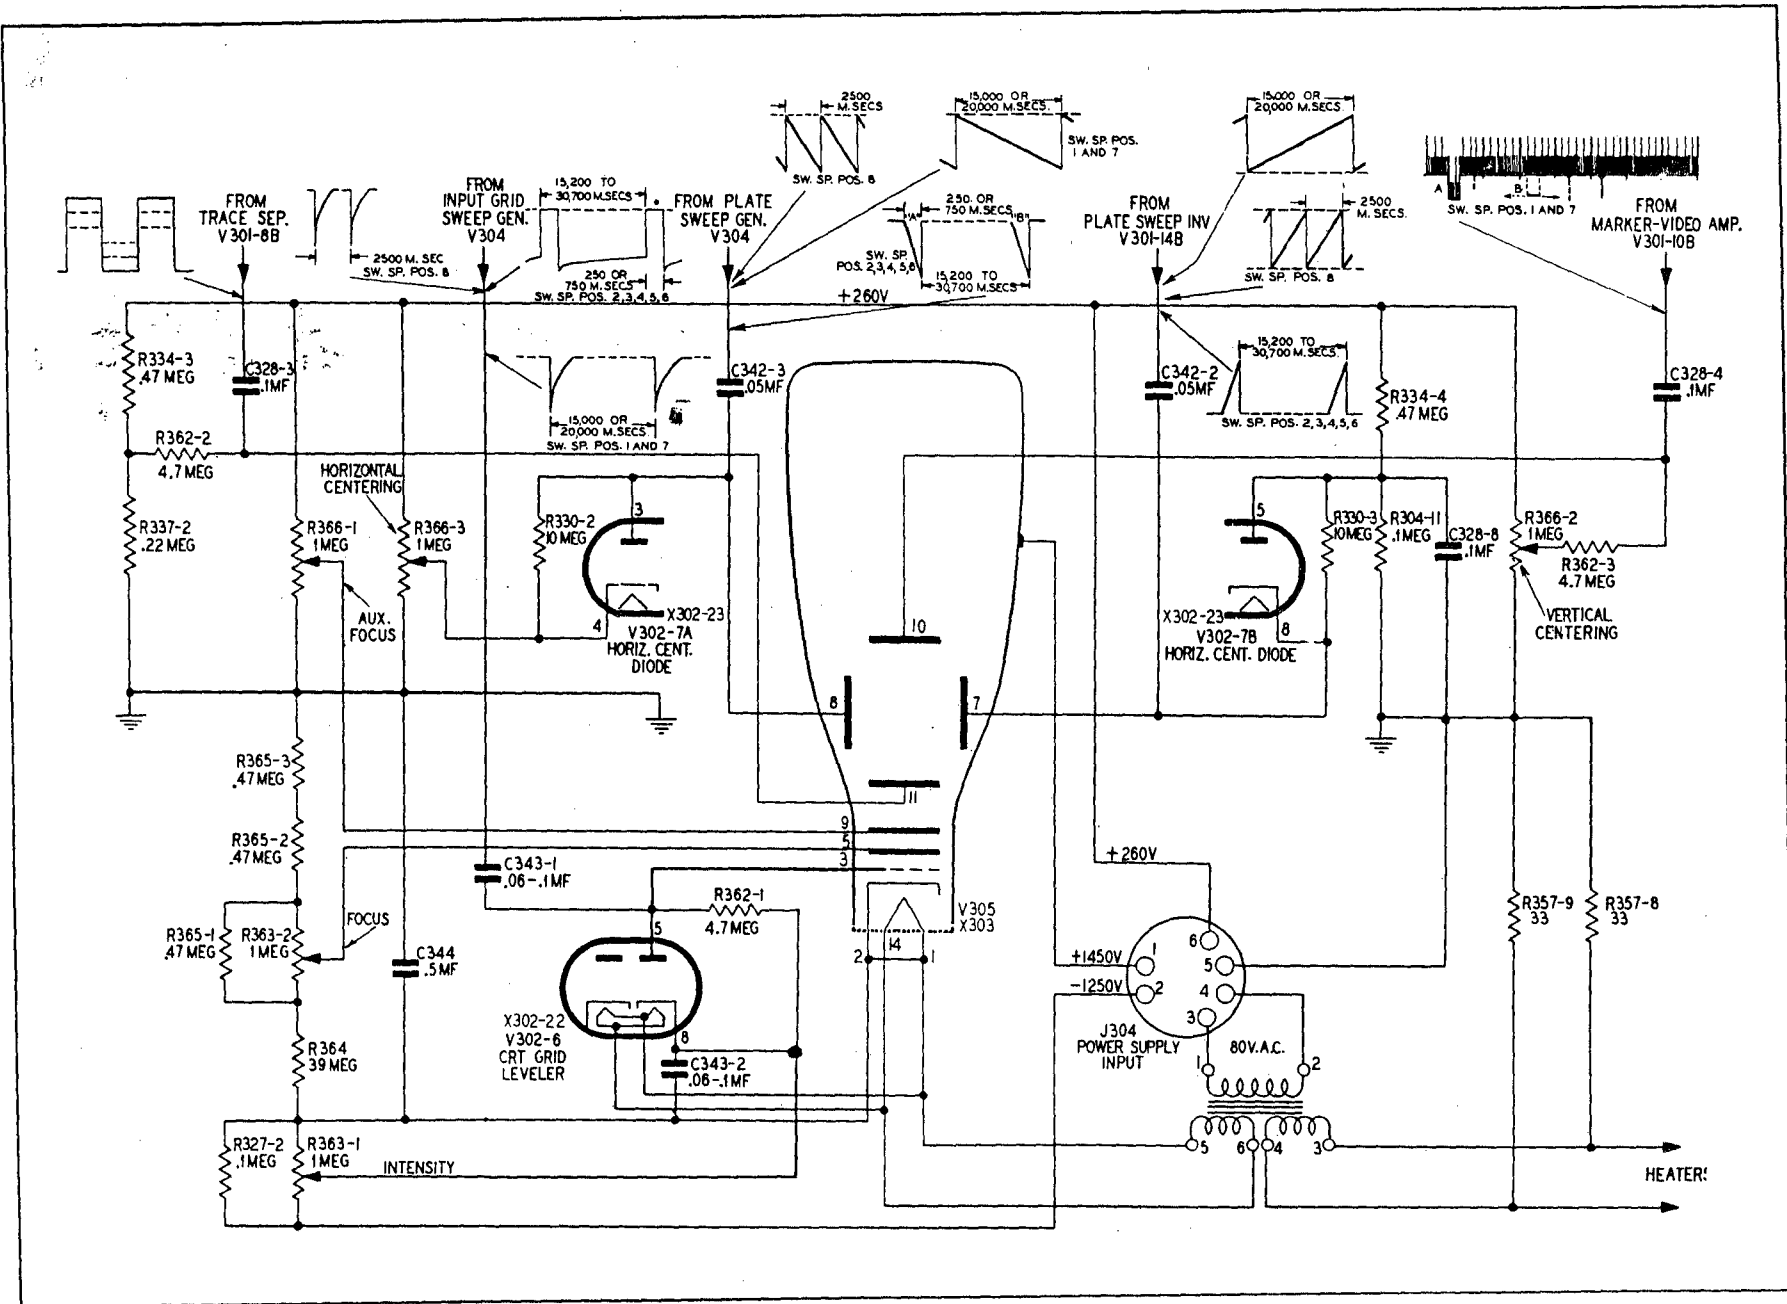

Figure 4-67. Cathode-Ray Tube and Indicator Power Supply Circuit
(10) CATHODE-RAY TUBE FUNCTIONS.—The cathode-ray tube (fig. 4-67) provides the means for reading visually the difference in arrival time of the ground station signals. The operating d-c voltages applied to various tube elements are obtained from both the low-voltage (regulated d-c) and high-voltage power supplies. The cathode, connected directly to its filament, is approximately 1200 volts negative with respect to the indicator chassis. The intensity control grid (number 3 in diagram) is connected through its grid resistor (R-362-1) to the movable arm of the "INTENSITY" control R-363-1 by which the grid voltage may be adjusted from zero to approximately —50 volts, with respect to the cathode. Diode V-302-6, designated as "CRT GRID LEVELER," is connected in the intensity grid control circuit as a d-c restorer. The diode circuit connections are such (the plate connected to the intensity grid, the cathode to the movable arm of the "INTENSITY" control) that the positive peaks of all signals, fed through capacitor C-343-1, are leveled at the d-c voltage selected by the "INTENSITY" control. The negative excursions of the signals, by which blanking of the retrace is effected, are always based at the grid-to-cathode d-c voltage selected by the "INTENSITY" control. The positive excursions of the signals, starting at some negative blanking level, raise the voltage on the intensity control grid to the level selected by the "INTENSITY" control, but no higher.